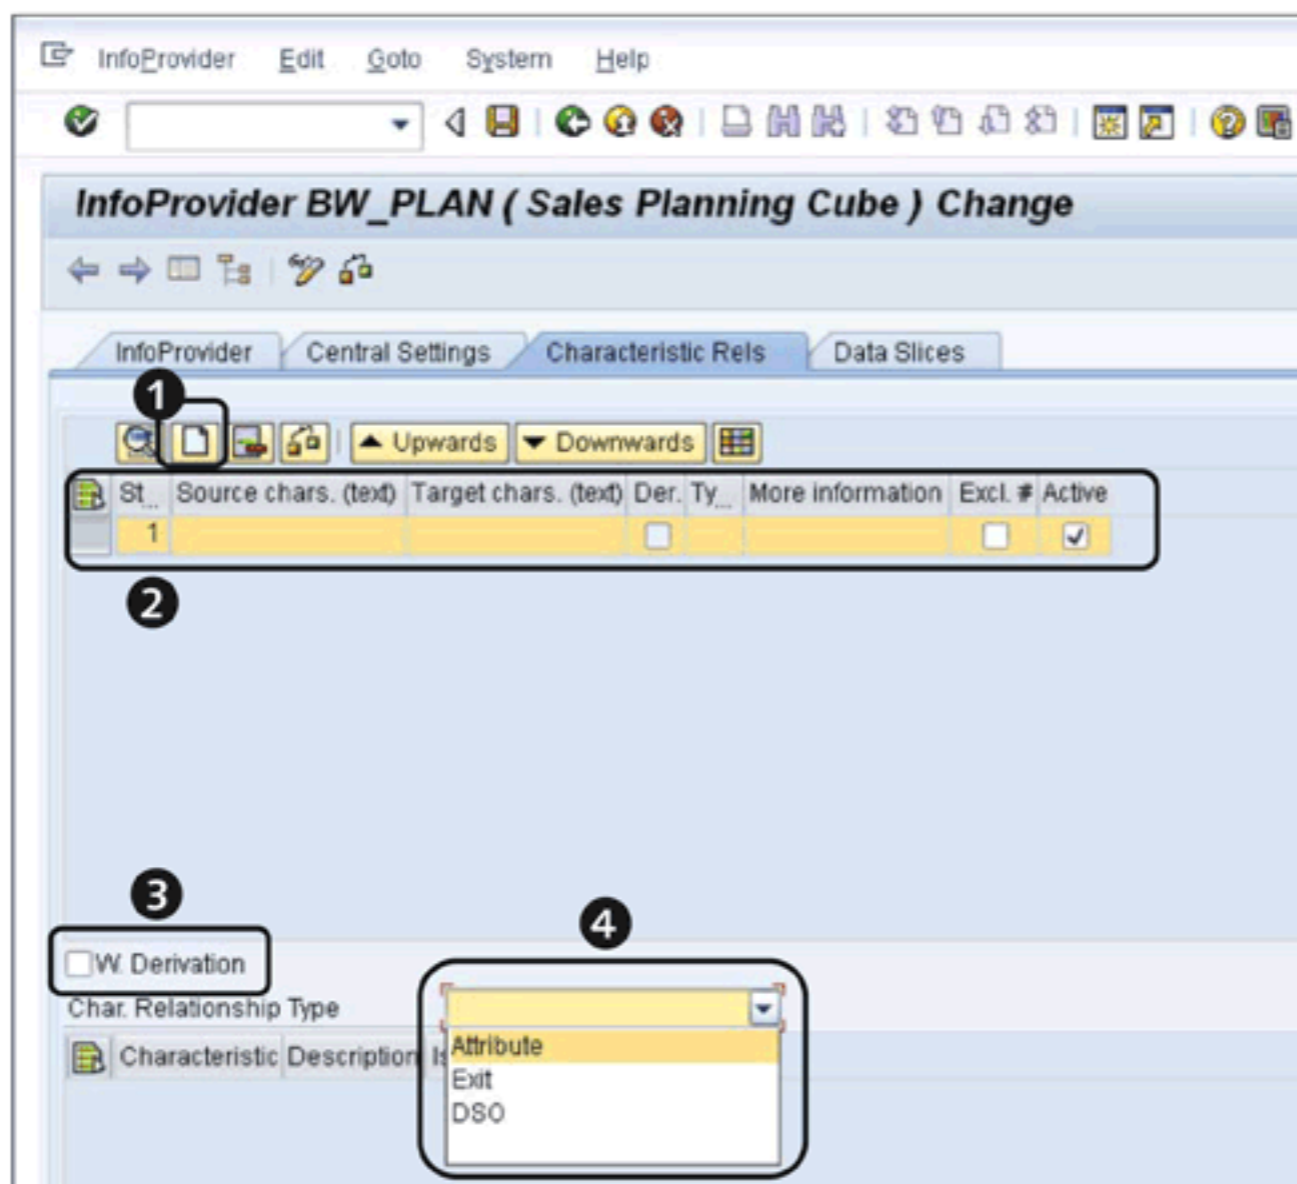

Figure 12.14 Create New Characteristic Relationship
On the CHARACTERISTIC RELS TAB, click on the CREATE button to create a new characteristic relationship (❶ of Figure 12.14). This creates a new row for the characteristic relationship in the upper section of the screen (❷ of Figure 12.14).
The checkbox W. DERIVATION (❸ of Figure 12.14) allows you to define whether the characteristic relationship is used to derive values. This checkbox is left unchecked if the characteristic relationship is used only for check and proposal needs. In this case, we create a characteristic relationship to check the valid combinations of product (defined using the material InfoObject BW_PROD) and product range (defined using the division InfoObject ODIVISION). Leave the W. DERIVATION checkbox unchecked.